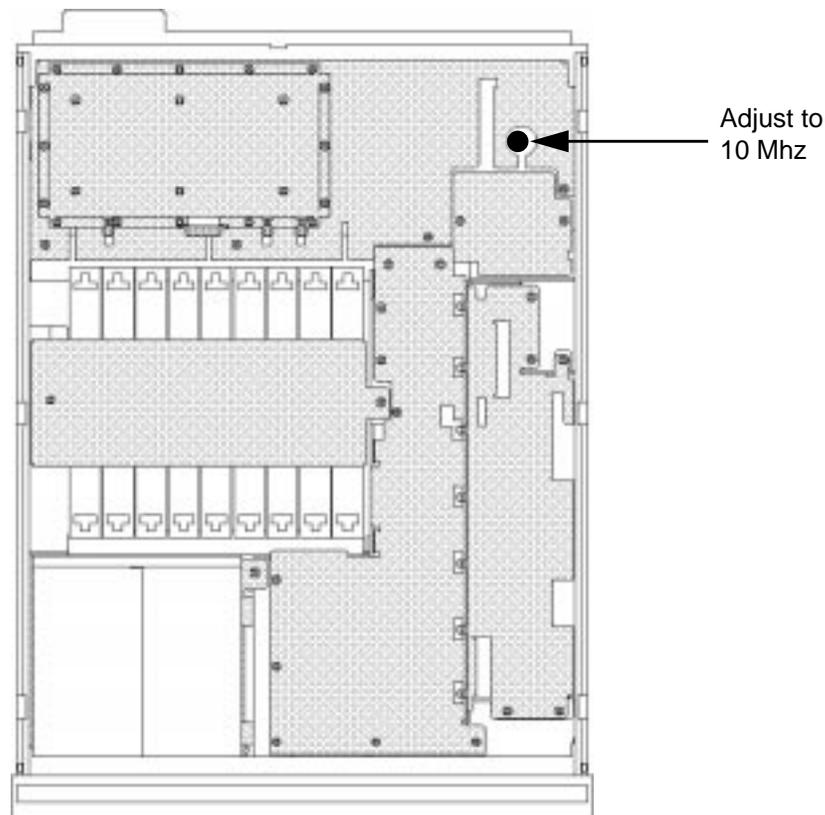

Figure 7-1
4. Adjust the high stability timebase (see figure 7-1) until the frequency counter reads 10 MHz.